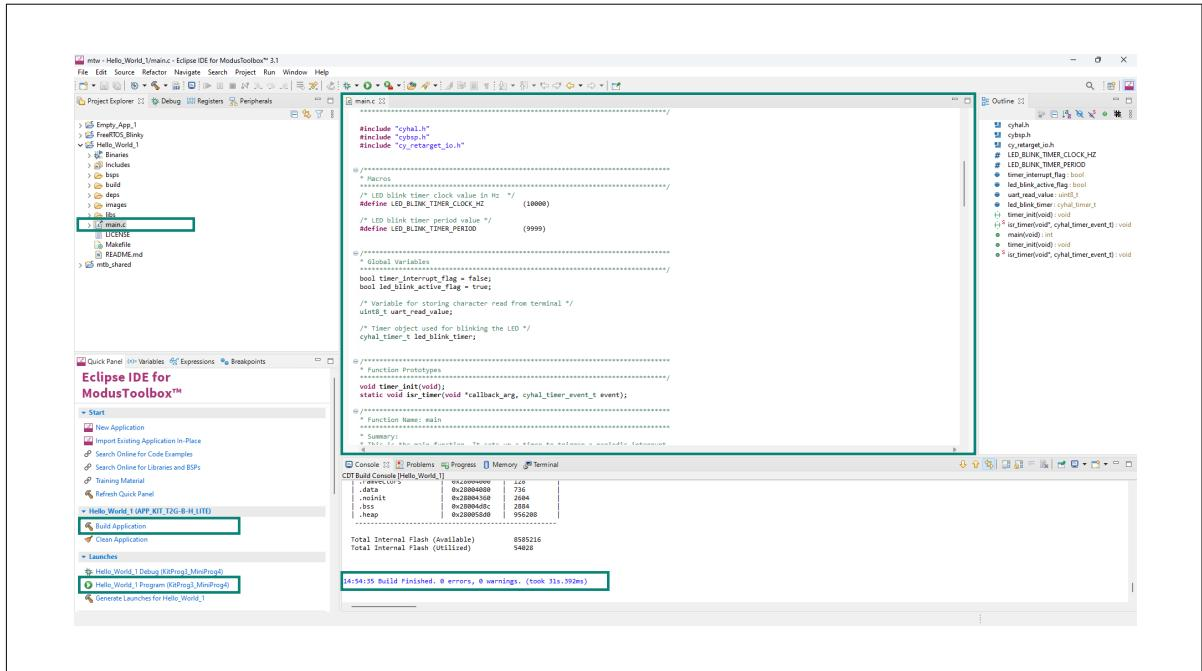

Figure 11 Building and then programming the LED Blinky code
6. Once the project is created successfully, go to the "Project Explorer" and expand the Hello_World project and see the *main.c* file (as shown in **Figure 11**)